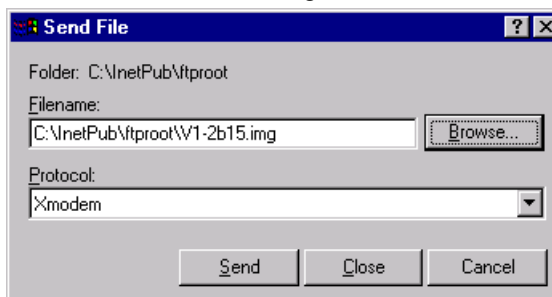

Figure 5-54 HyperTerminal Send File Window
Step 19. Click **Transfer** in the upper row menu of the HyperTerminal window to display the **Send File** window of Figure 5-54.